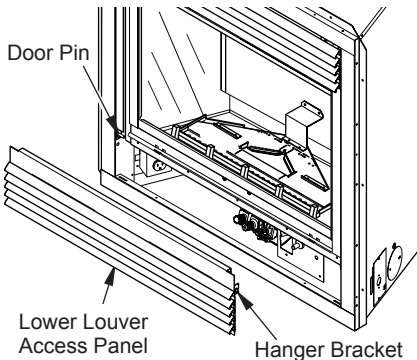

Figure 43 - Removing Lower Louver Access Panel
1. Grasp the lower louver panel and pull up until the hanger brackets release from the door pins (see Figure 43).
1. Remove the lower louver panel (see *Removing Lower Louver Access Panel* and Figure 43).